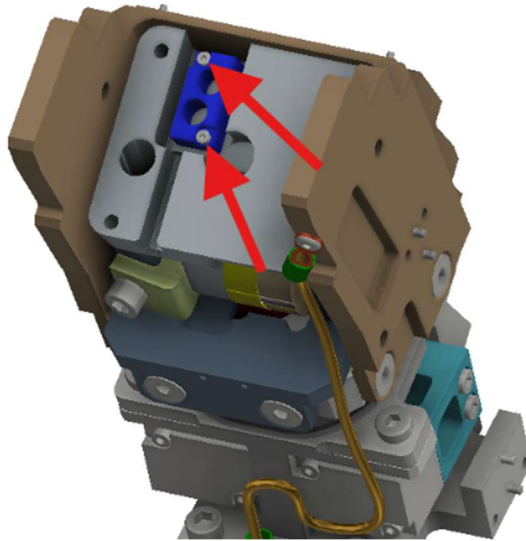

Figure 5-37. Remove the T1 Tilt Sensor (SA572-S44) from the Neck Posture Adjustment Assembly (474-3050)
- 5.2.34 Remove the T1 Tilt Sensor (SA572-S44) from the Neck Posture Adjustment Assembly (474-3050) by removing two M2 X 0.4 X 10 LG. SHCS (Figure 5-37).